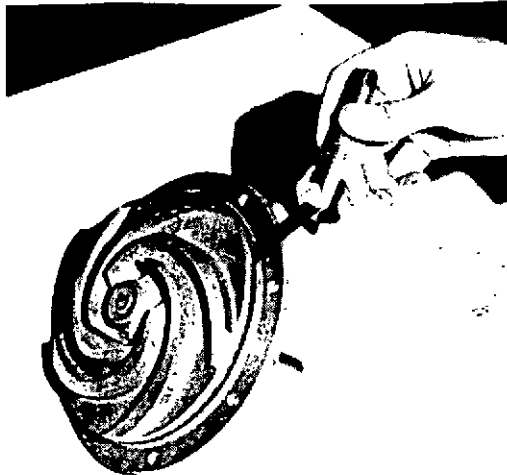

Figure 2. Impeller Installation
F. Coat end of impeller shaft (9) with Loctite, grade 601. Position housing (8) and impeller shaft (9) in arbor press so they are supported by impeller shaft (9). Press impeller (5) onto impeller shaft (9). Impeller (5) is correctly installed when 0.100 inches clearance exists between impeller (5) and housing (9), refer to figure 2.
G. Turn housing (8) over. Roughen surface of drive shaft (9) with coarse
I. Spin impeller (5) by hand. Check that impeller (5) does not touch housing (8) at any point. If it does, re-check clearance as shown in Figure 2.
J. Install gasket (3) and housing assembly (4) on body (2). Align holes and install screws (11) and washers (12). Tighten screws progressively, in a cirss-cross pattern, to a final torque of 16 ft-lbs.